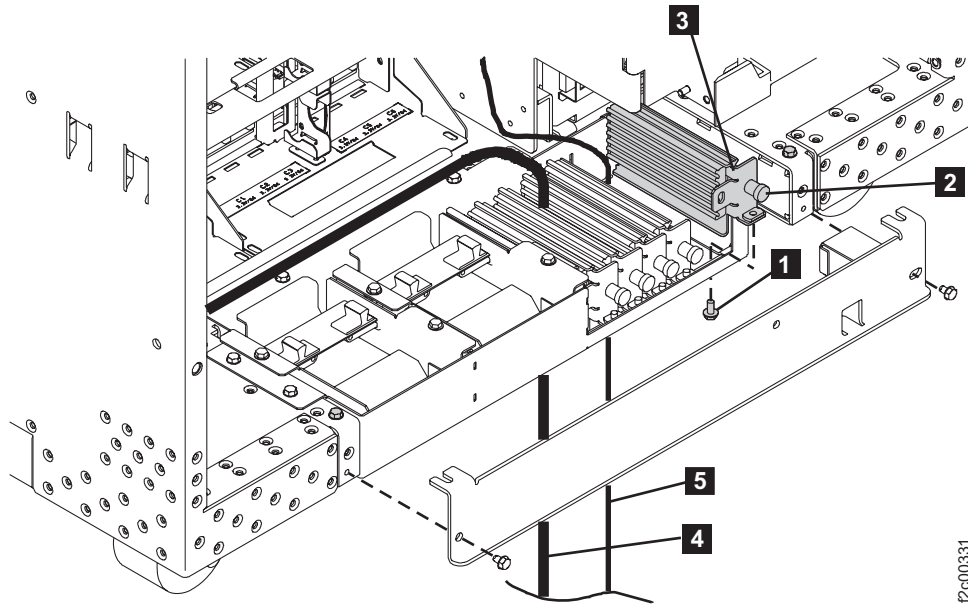

Figure 21. RIO & SPCN cable (remove or install)
- a. For the earlier version of the tailgate design, remove the cable retention clamps **3**, as appropriate. Do this by removing the screws **1** from the underside and releasing the retention pins **2**. See Figure 21 on page 26.